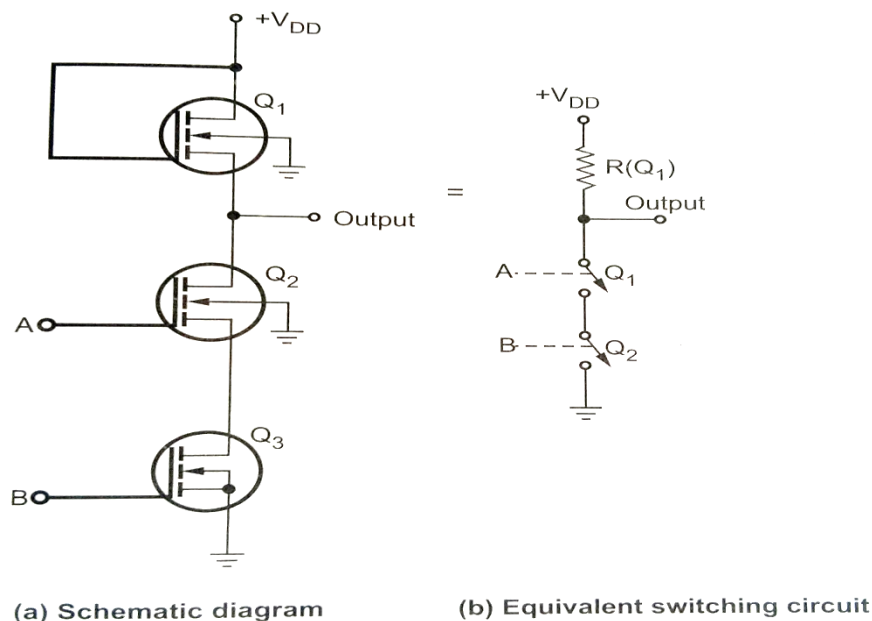

Figure 1.23: 2-input NMOS NAND gate
- Figure 1.23 shows 2-input NMOS NAND gate. Q₁ acts as a load resistor and Q₂ and Q₃ are the switching MOSFETs controlled by the inputs A and B.